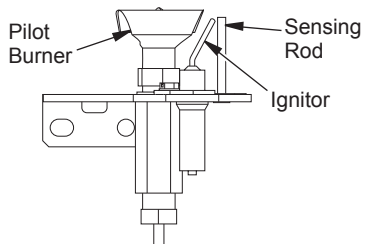

Figure 49 - Pilot
5. Turn equipment shutoff valve clockwise  to the OFF position (see Figure 49). Do not force.
6. Wait five (5) minutes to clear out any gas. Then smell for gas, including near the floor. If you smell gas, STOP! Follow "B" in the safety information in column 1. If you don't smell gas, go to the next step.